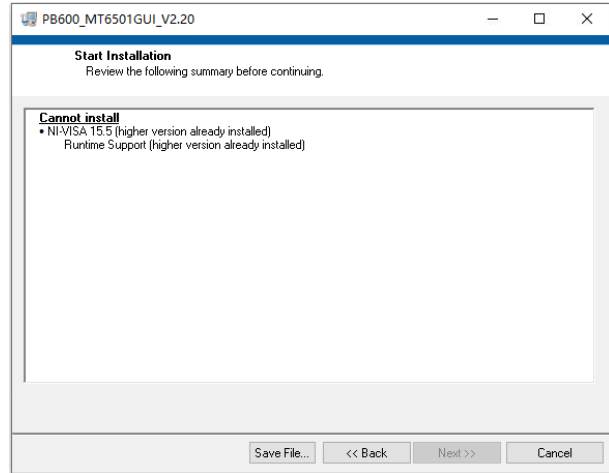

Figure 2.4 Installation Successful Information
- After verifying the installation information, click 'Next' to proceed. If, at this point, the installation information displays the content as shown in Figure 2.4 below, it indicates that the software driver has been successfully installed on this computer. You can click 'Cancel' to end the installation and directly open the upper computer software for operation.